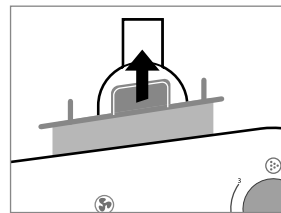

Fig. 1
1. Take an inhalation chamber from the main device body holding by edges on a chamber cover (Fig. 1).